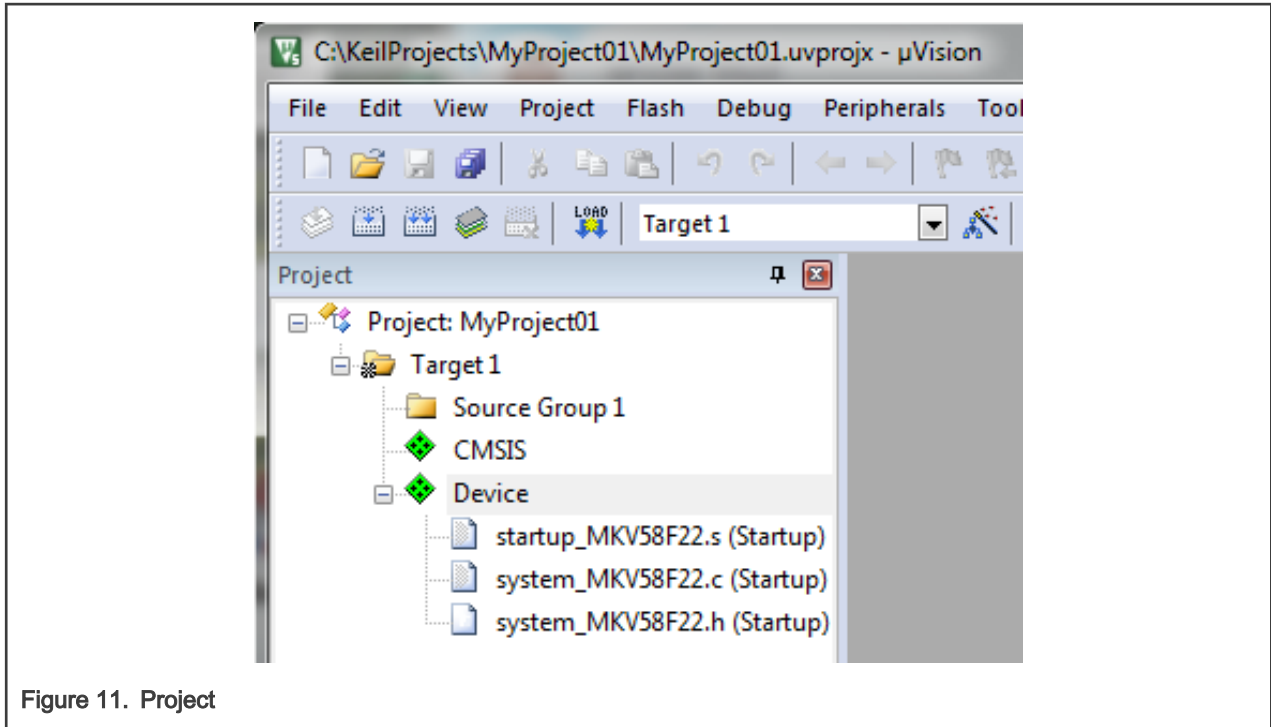

Figure 11. Project
10. Click OK, and a new project is created. The new project is now visible in the left-hand part of Keil µVision. See Figure 11.
13. Select Use Single Precision in the Floating Point Hardware option. See Figure 11.